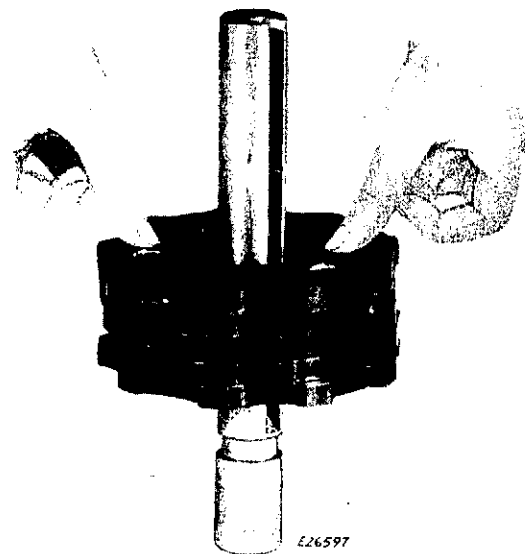
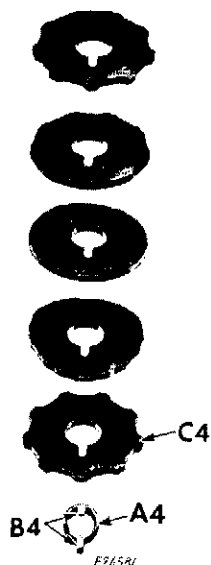

Fig. 255B
Fig. 256
2. Press with thumbs against discs astride the locating tool and press down, as shown in **Fig. 255B**.
5. Place the disc bushing **A4**, Fig. 256 in an upright position, with keys **B4** facing up. Then take one disc **C4** at a time and with the STITCH PATTERN DESIGN FACING DOWN, align the key slot with the key on the bushing and press on, as shown in Fig. 255B. This procedure is the same for the remaining discs.